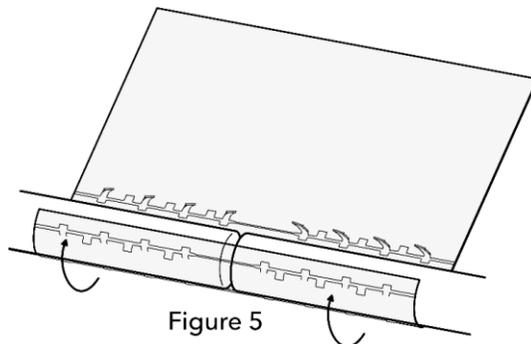

Figure 5
- 8.9 Engage additional microhooks by wrapping the shorter leaf of the device around the approximated nerve stumps (Figure 5).